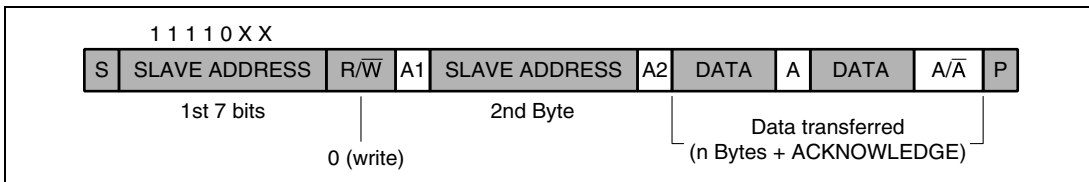

Figure 16.7 10-Bit Address Data Transfer Format
Figure 16.7 shows the data transmit format. The set value of the Master Address Register is output in one byte following the first transfer condition (S). The value set in Transmit Data (TXD) is transmitted as a slave address in the second byte. Data transfer on and after the third byte is done in the same way as the 7-bit address data transmit.